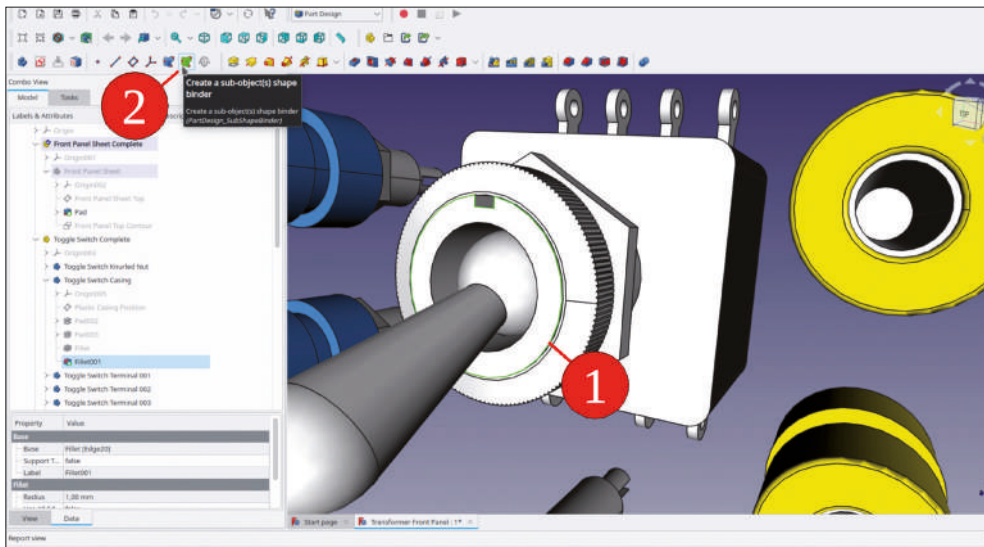

Figure 9-25
3. In the 3D view, mark the toggle switch contour, which determines the shape of the hole in the front panel (Figure 9-25), and click the green 'Create a sub object(s) shape binder' tool button.